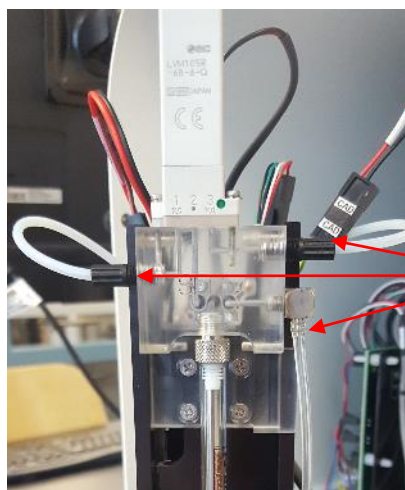

Fig. 2.18: Syringe Header Block
- iii. Reinstall the tubing and the ferrule connector of the syringe header. (See Fig. 2.18)